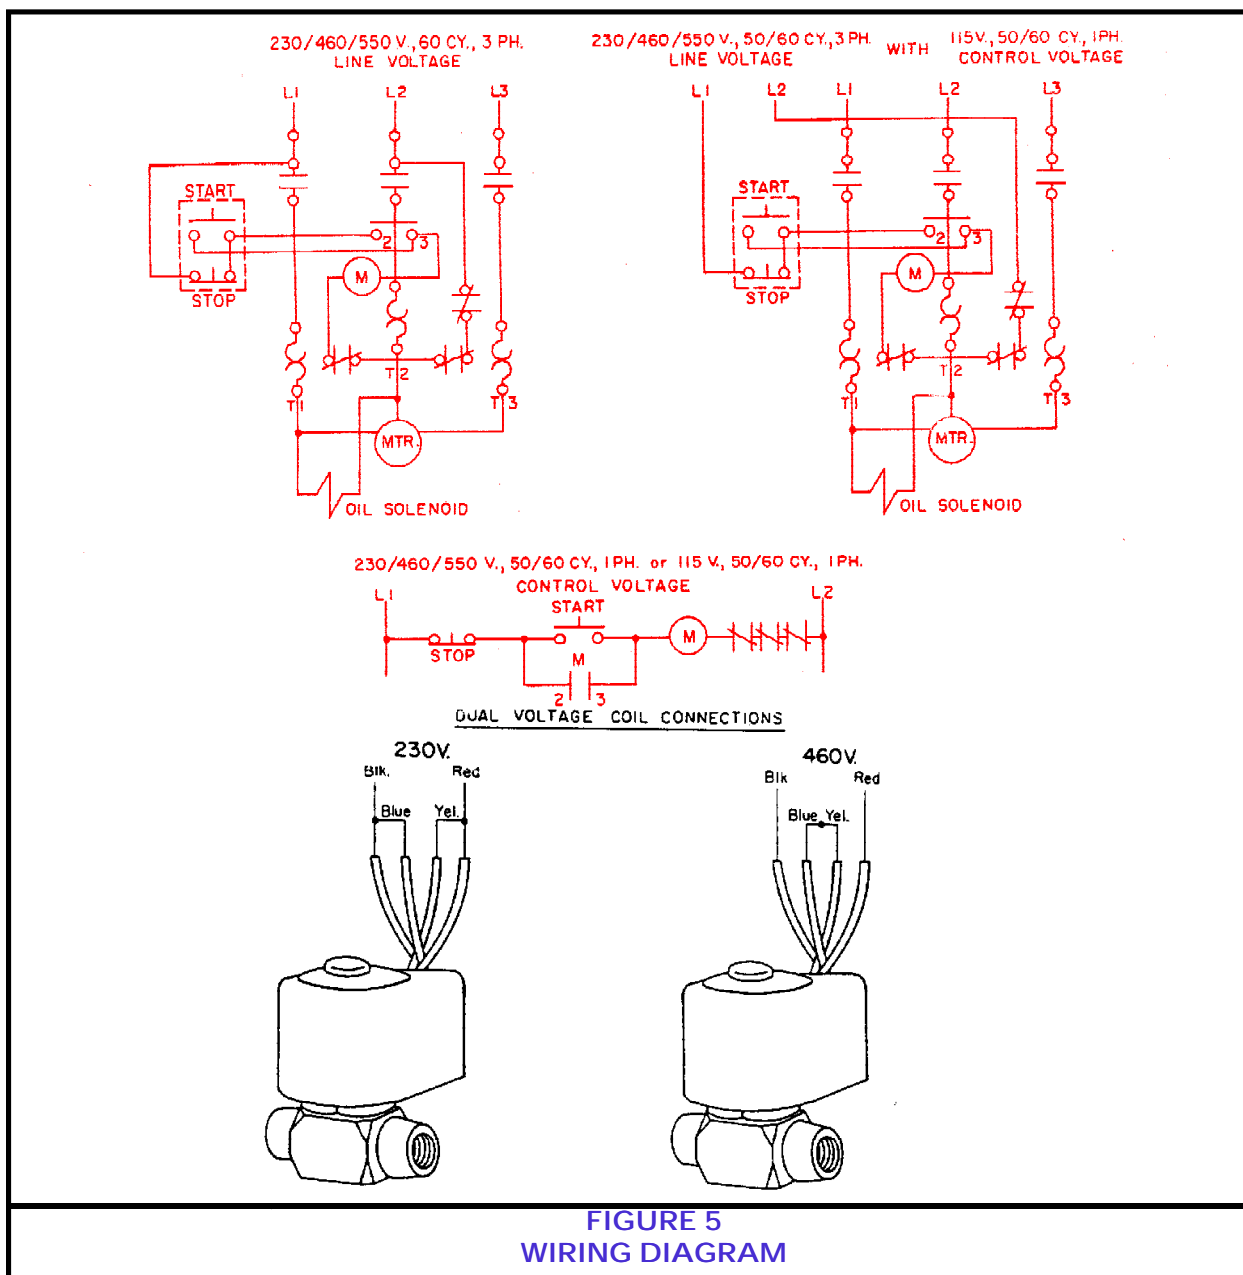

FIGURE 5
## 2.4 ELECTRICAL CONNECTIONS (See Figure 5)
- 2.4.2 Connect the solenoid valve as in Figure 5.